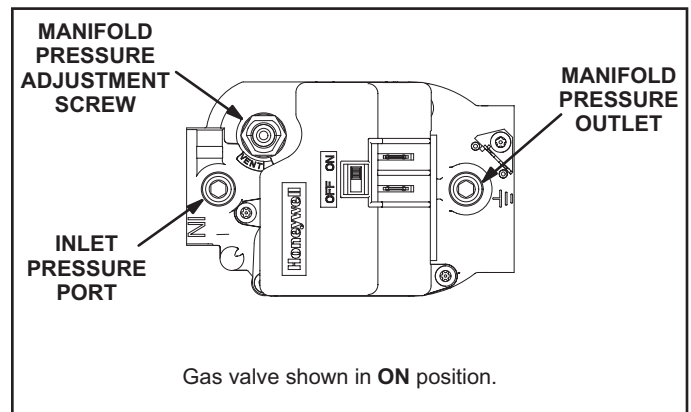

FIGURE 14
The gas valve is adjustable for both low fire and high fire. Figures 14 and 15 show gas valve components. Table 7 shows factory gas valve regulation pressures.
Gas Valve Operation (figure 14 and 15)
- 5 - Move gas valve switch to **OFF**. See figure 14 or 15.
- 6 - Wait five (5) minutes to clear out any gas. If you then smell gas, **STOP!** Immediately call your gas supplier from a neighbor's phone. Follow the gas supplier's instructions. If you do not smell gas, go to the next step.
- 7 - Move gas valve switch to **ON**. See figure 14 or 15.